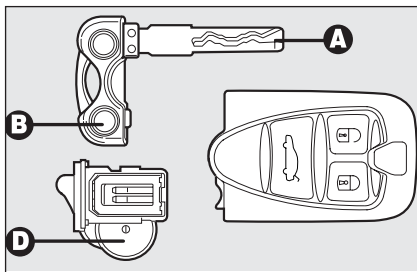

fig. 8
To change the battery **fig. 8** proceed as follows:
- remove the battery **D-fig. 8** from the case taking note of the bias (in the figure the positive pole is facing downwards);